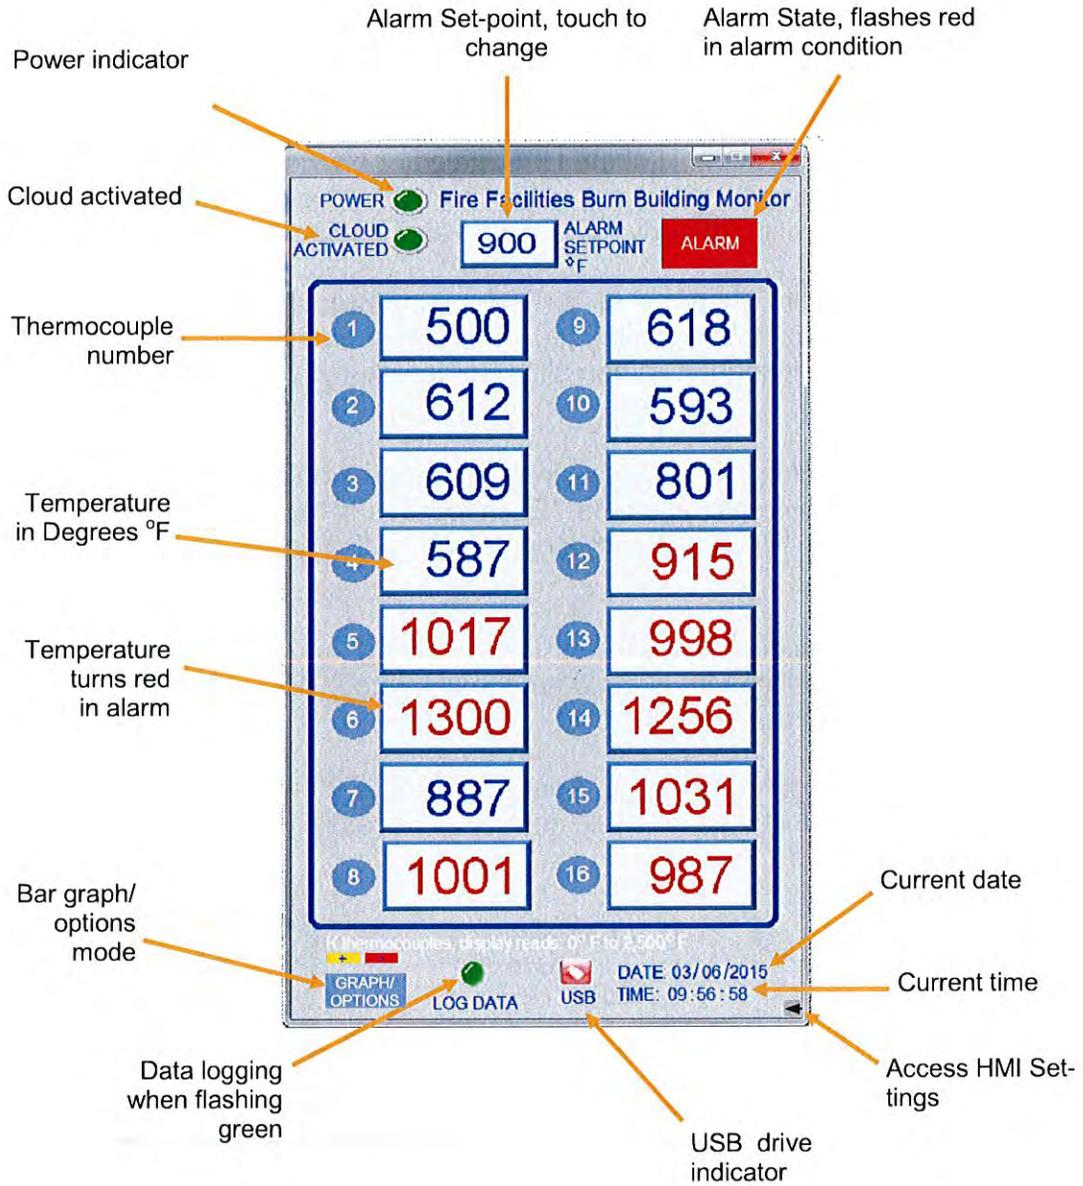
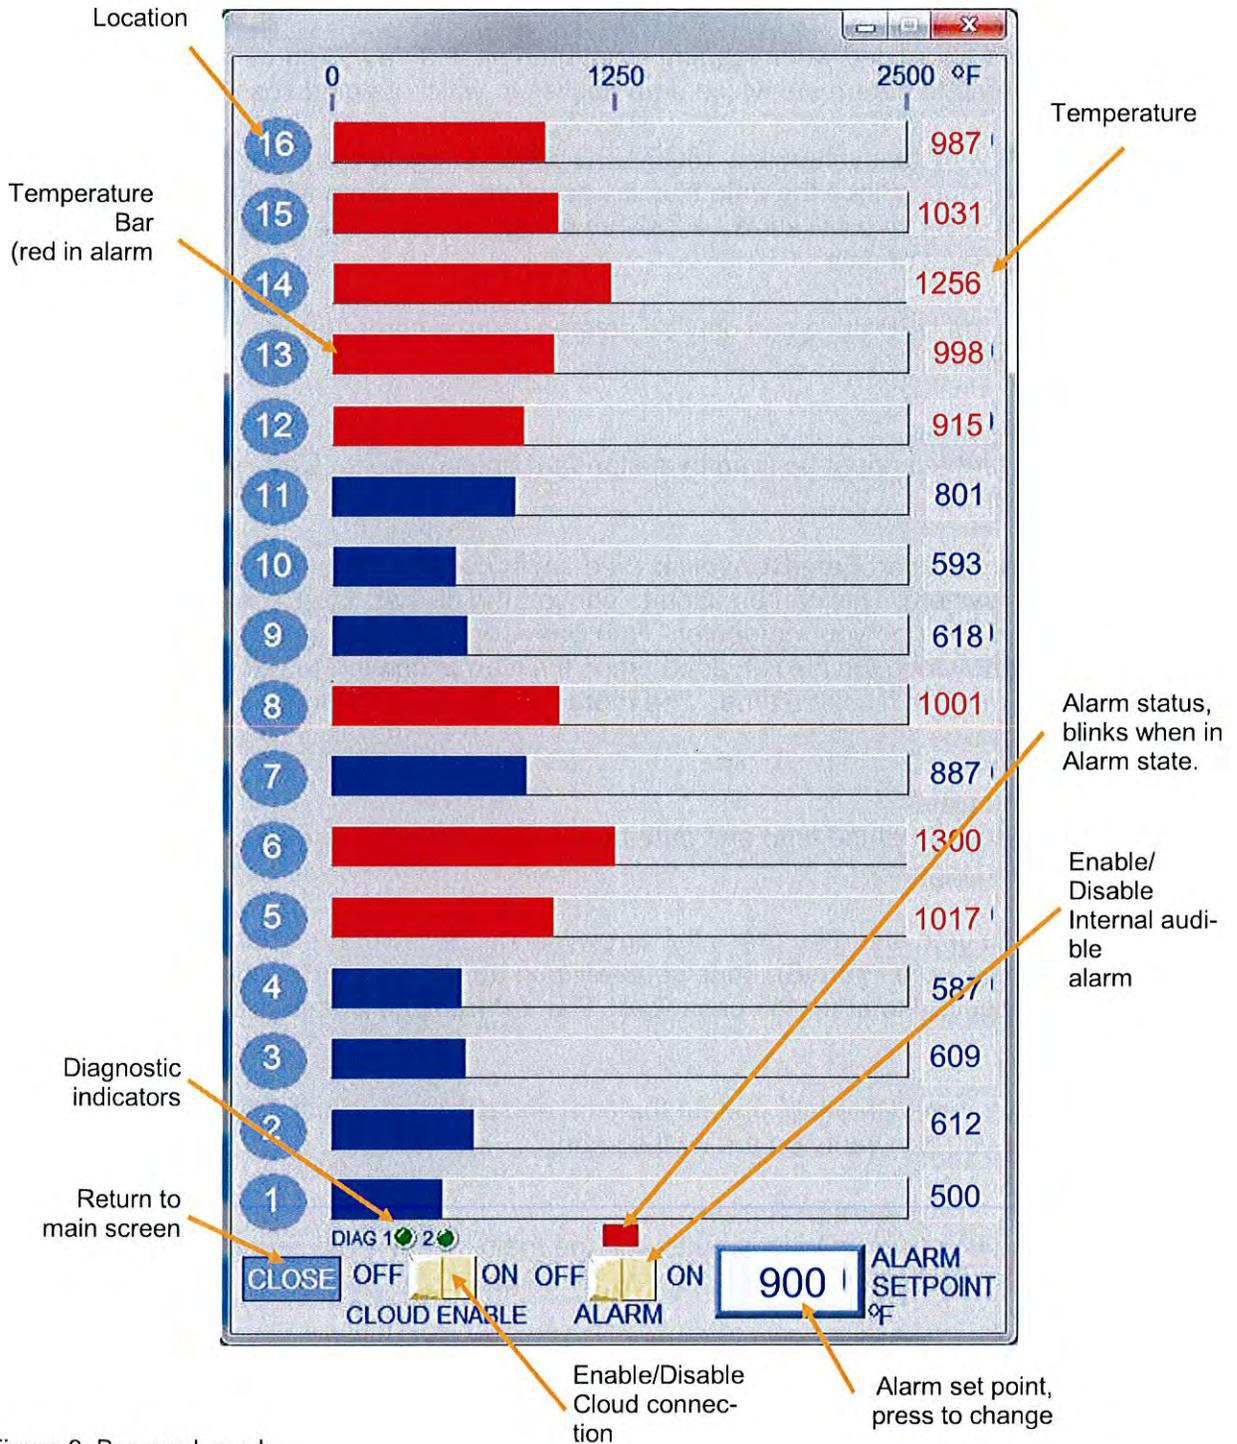
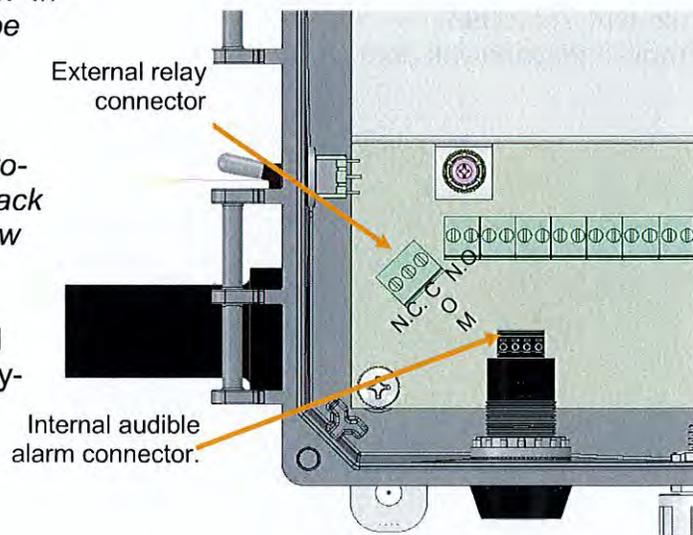

Figure 8. HMI screen.
Figure 9. Bar graph mode.
Figure 10. External alarm relay.
In **Auto-on mode** the pyrometer wakes up at 150°F and begins performing all functions including recording of data to the USB and sending data to the cloud. This is the preferred mode of operation. In **Always-on mode**, the pyrometer is always on and logging data to the USB and sending data to the cloud. **The cost of cloud data is based on the amount of data sent, this should be a consideration when using this mode.** The cloud can be turned off by pressing the cloud switch on the Graph page of the display see figure 9 on page 10.
The HMI displays 16 temperatures, alarm set point, and USB logging as well as the current time and date, the functions of each are describe below (see figure 8)
To set the time and date press the arrow icon in the lower right hand corner of the screen (see figure 8 HMI settings), four icons will be displayed, select the "gear" (left most) icon, and enter the password.
If there is no USB drive in the HMI the USB indicator on the HMI (see figure 8) will be red and logging cannot take place. After the USB drive is installed the USB indicator turns gray indicating the drive is installed and logging can proceed.
To set the time and date press the arrow icon in the lower right hand corner of the HMI screen (see figure 8), four icons will pop up, select the gear (left most) icon, you will be required to enter the password. **The default HMI password is 111111 (six ones).**
Pressing the Bar Graph/Options button on the main screen (see figure 8) allows the user to see the current data in bar graph mode (see figure 9). Two options are also displayed:
When the cloud enable switch is on, data will be sent continuously (about once every 10 seconds) to the cloud via cellular connection. To reduce monthly charges the cloud enable can be turned off as necessary see figure 9. The Cloud Activated indicator (see figure 8) shows the status of the cloud connection, it is bright green when on and dark green when off.
5.2 Audible Alarm Enable. When switched on (see figure 9) the internal alarm will sound. The internal alarm can be turned off by turning the switch off. Note that turning the alarm on or off will also affect the external alarm. The alarm light always turns on regardless of the Audible Alarm status. By default Audible Alarm is enabled.
In Bar Graph mode all temperatures below the set-point will be blue and the bars will also be blue. When the temperature is equal to or greater than the set-point, both the temperatures and the bars will become red indicating an alarm condition, additionally the alarm indicator will blink red (see figure 8).
- Ensure the VNC is on, on the HMI monitor: Press the arrow in the lower right hand corner of the HMI screen (figure 8, HMI settings).
The audible alarm sounds whenever there is an alarm condition. The alarm (both internal and external, if used) may be turned off permanently by toggling the alarm switch on the HMI. See Bar Graph mode Audible Alarm Switch in figure 9.
A connection to the cloud can be enabled or disabled on the bar graph page of the HMI see figure 9. When enabled various data is sent to a URL where it may be viewed. The cloud connection is made via a Verizon cellular modem (see figure 2 Cloud Gateway for location). URL: <https://portals.versacloudm2m.com/login>
Note that the default value is cloud data on, so anytime the power is cycled data will be transmitted to the cloud. Refer to figure 8 Cloud Activated to determine if data is being sent to the cloud.
The Pyrometer has a relay for an external audible alarm see figure 10. The alarm contacts are rated for 2A at 250VAC or 2A@30VDC and include both normally open (N.O.) contacts and normally closed (N.C.) contacts. A switch on the HMI bar graph/options page (see figure 9) is provided to turn on/off the internal/external alarm (the light will still flash). The internal audible alarm can also be turned off by unplugging it (see figure 10).